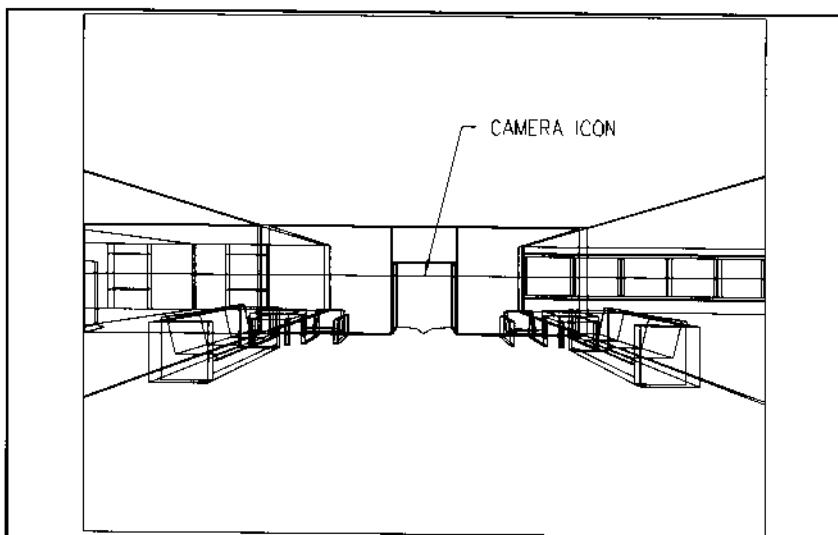

Figure 7.
2. Select the Eye Camera command from the Eye submenu and assign the name VIEW1. The camera will appear as a horizontal line across the perspective view as shown in Figure 7.